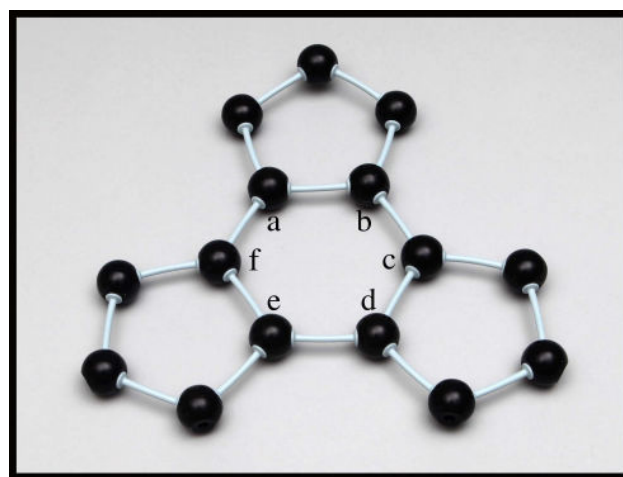

Fig. 2 Completing step 2.
2. Attach four connectors and three atoms between a and b of the hexagon to form a pentagon. Repeat with atoms c and d, and then with e and f. (Fig. 2)